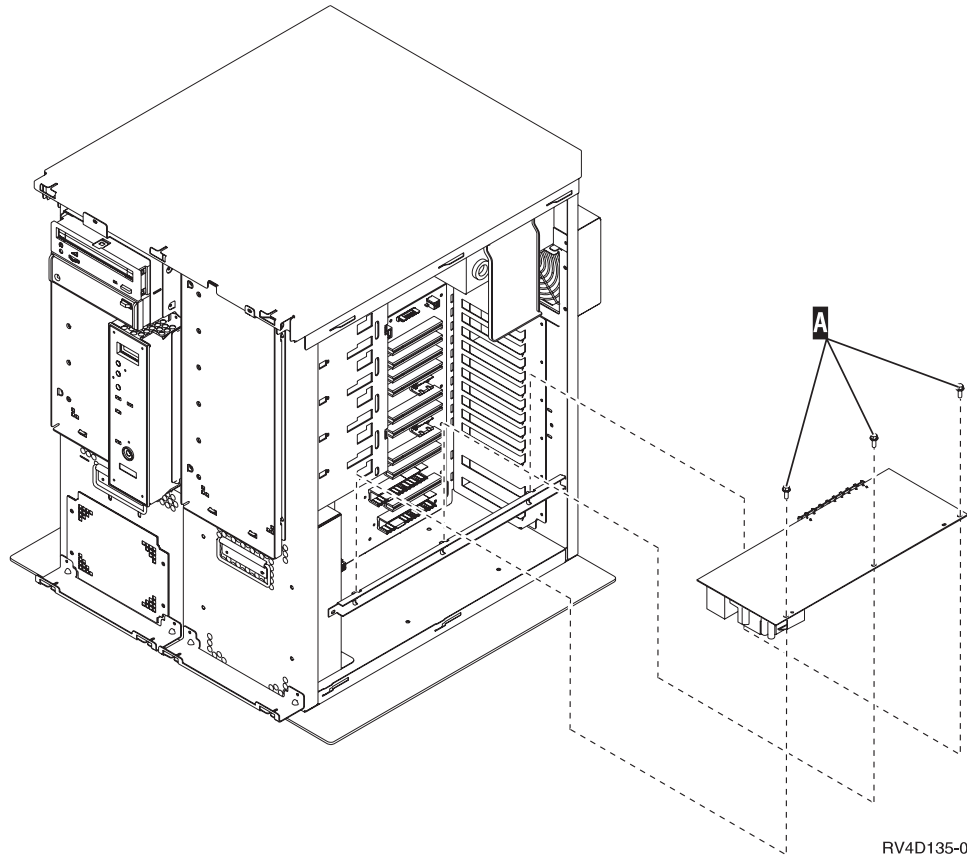

Figure 8. Install Server Card in Expansion Unit
- a. Align the card with the card slot Figure 8.